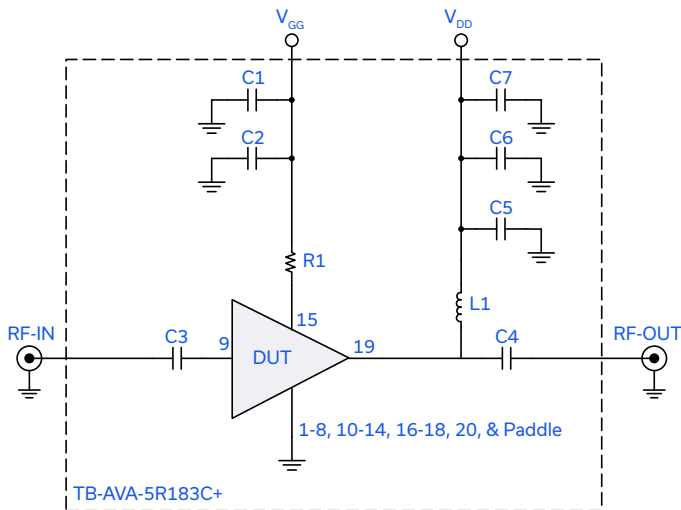

Figure 2. DUT soldered on Mini-Circuits Evaluation Board: TB-AVA-5R183C+
1. Tested on Mini-Circuits Characterization Test/Evaluation Board TB-AVA-5R183C+. See Figure 2. De-embedded to the device reference plane.